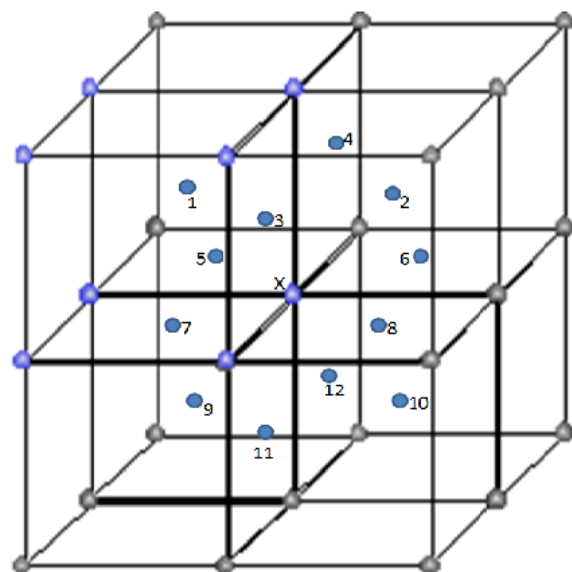

Fig 5.23
To calculate the co-ordination number, for FCC, let us consider a corner atom (X) as shown in fig 5.23. In its own plane it has 4 face centered atoms (5, 6, 7, 8) as nearest neighbours. In a plane which is lie just above this corner atom, it has 4 more face centered atoms (1, 2, 3, 4) as nearest neighbours. In a plane which is lie just below this corner atom, it has 4 more face centered atoms (9, 10, 11, 12) as nearest neighbours. Therefore, the total number of nearest atoms to any corner atom is $4+4+4=12$. Hence, the co-ordination number for FCC is 12.
The corner atoms do not touch each other. However, each corner atom touches the face centered atoms along the diagonal of the face of the cube as shown in fig 5.24 (a). It is clear from fig 5.23 that the nearest neighbouring atoms are corner atoms A and C and the face center atom. Consider the atoms at A, C and the face center atom. These atoms lie in one straight line along the face diagonal AC of the cube.